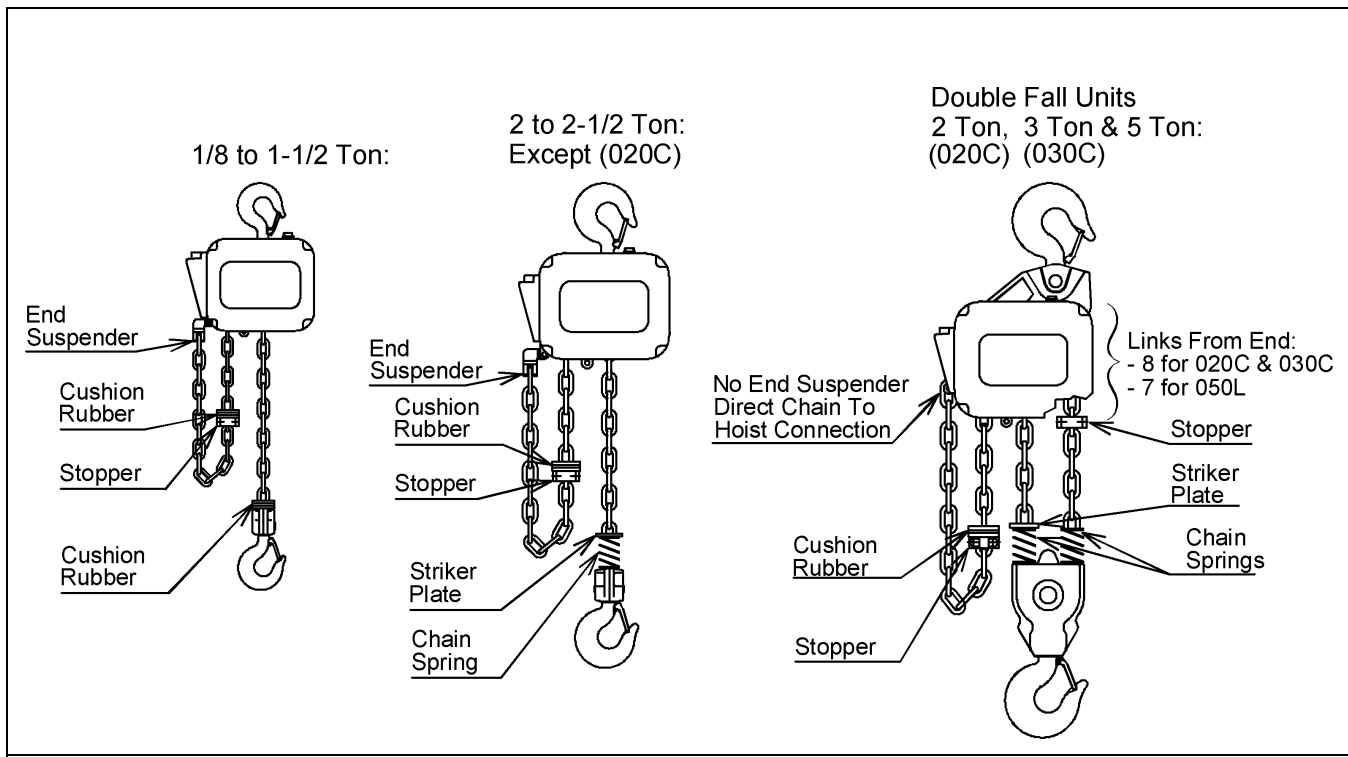

Figure 3-2 Chain Component Arrangement for Single Fall and Double Fall Hoists.
- 3.2.1 The quantity and location of the chain components including cushion rubbers, chain springs, and striker plates depend on the hoist model, capacity, and limits switches. Never operate the hoist with incorrect, missing, or damaged chain components. Refer to the hoist's nameplate, Table 3-1, as well as Figures 3-2, 3-3. Ensure that all chain components are in the correct location and properly installed.